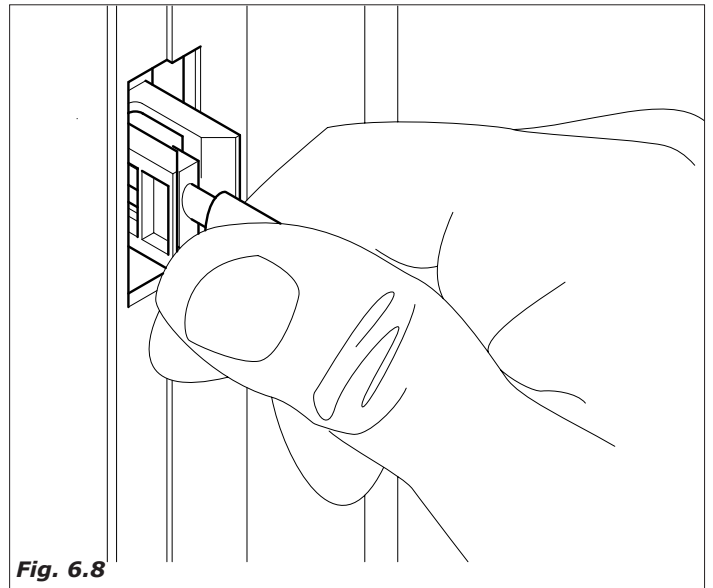

Fig. 6.8
- For some operations is however necessary operate with the door open but with the distributor connected. It is possible for qualified technical personnel, to operate in this way, by inserting the special plastic key, supplied with the distributor, into the door switch and rotating it 90° (Fig.6.8).